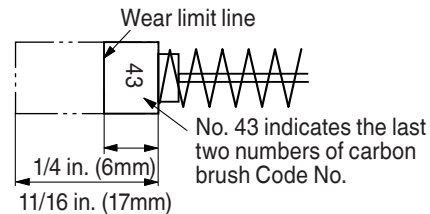
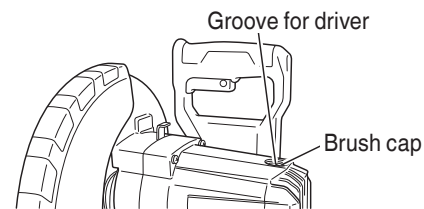

Fig. 29
Fig. 30
3. Inspecting the carbon brushes (Fig. 29 and Fig. 30)
Therefore, inspect the carbon brushes periodically and replace them when they have become worn to the wear limit line as shown in Fig. 29. Also, keep the carbon brushes clean so that they will slide smoothly within the brush holders.
The carbon brushes can easily be removed after removal of the brush caps (see Fig. 30) with a slotted (minus) screwdriver.
When replacing the carbon brushes, use only Hitachi carbon brushes having "43" in the last two digit of its Code No. (see Fig. 29). If you use other carbon brushes, the electric brake will not operate.